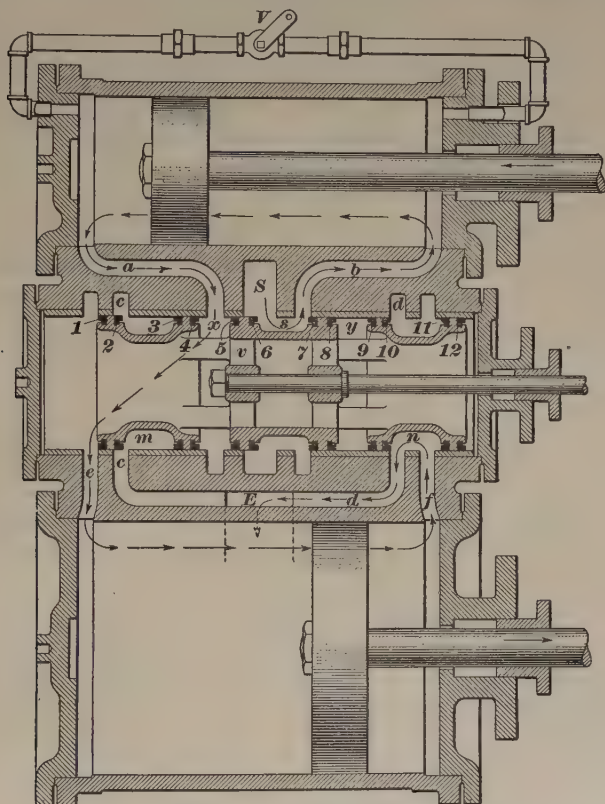

FIG. 35
ring 1 or 12, Fig. 35, will cause this trouble. The heavy exhaust will be followed after a short interval by a direct blow from the receiver to the exhaust that will continue until
64. Low-Pressure Valve and Piston.—The low-pressure valve is in two parts; that part, Fig. 35, between the packing rings 1 and 4, and that between the rings 9 and 12. To test a low-pressure valve, place the main pin on that side of the engine on the bottom quarter with the reverse lever in the forward corner and the starting valve open. In this position of the valve, the back steam port *b* to the high-pressure cylinder is connected to the steam-supply port *S*, and as the starting valve is open, there is direct communication between port *S* and the receiver. Next, block the drivers or set the brake, remove the back indicator plug of the low-pressure cylinder, and then open the throttle. Steam will pass from port *S* through port *b*, the starting valve and port *a*, into the receiver and the front end of the low-pressure cylinder. Therefore, if a blow occurs at the exhaust and steam escapes from the back indicator-plug opening, it indicates either a leak past the valve, a cracked bridge or loose bushing between ports *e* and *c*, or a leak past the low-pressure piston. To determine which is at fault, open the front low-pressure cylinder cock and move the valve so as to cover the steam ports. If the blow continues, the valve is at fault; if it stops, the trouble is in the bridge, bushing, or piston. Whether the piston, bridge, or bushing is causing the trouble can be readily determined when the engine is running slowly, since defective piston packing rings will blow on both strokes of the piston, while a defective bridge or bushing will blow only on one stroke. With the engine standing, you can distinguish between these
65. High-Pressure Piston Packing.—To test a high-pressure piston, place the main pin on that side of the engine on the bottom quarter with the reverse lever in the front corner and the starting valve closed. Block the drivers or set the brake, remove the indicator plug to the front end of either the high- or low-pressure cylinder and then open the throttle; this will admit steam to the back end of the high-pressure cylinder, as in Fig. 35, and the escape of steam from the indicator plug opening will denote a leak either past the piston or past the high-pressure valve. To determine which, test the high-pressure valve; if it is not leaking, the trouble must be in the piston.